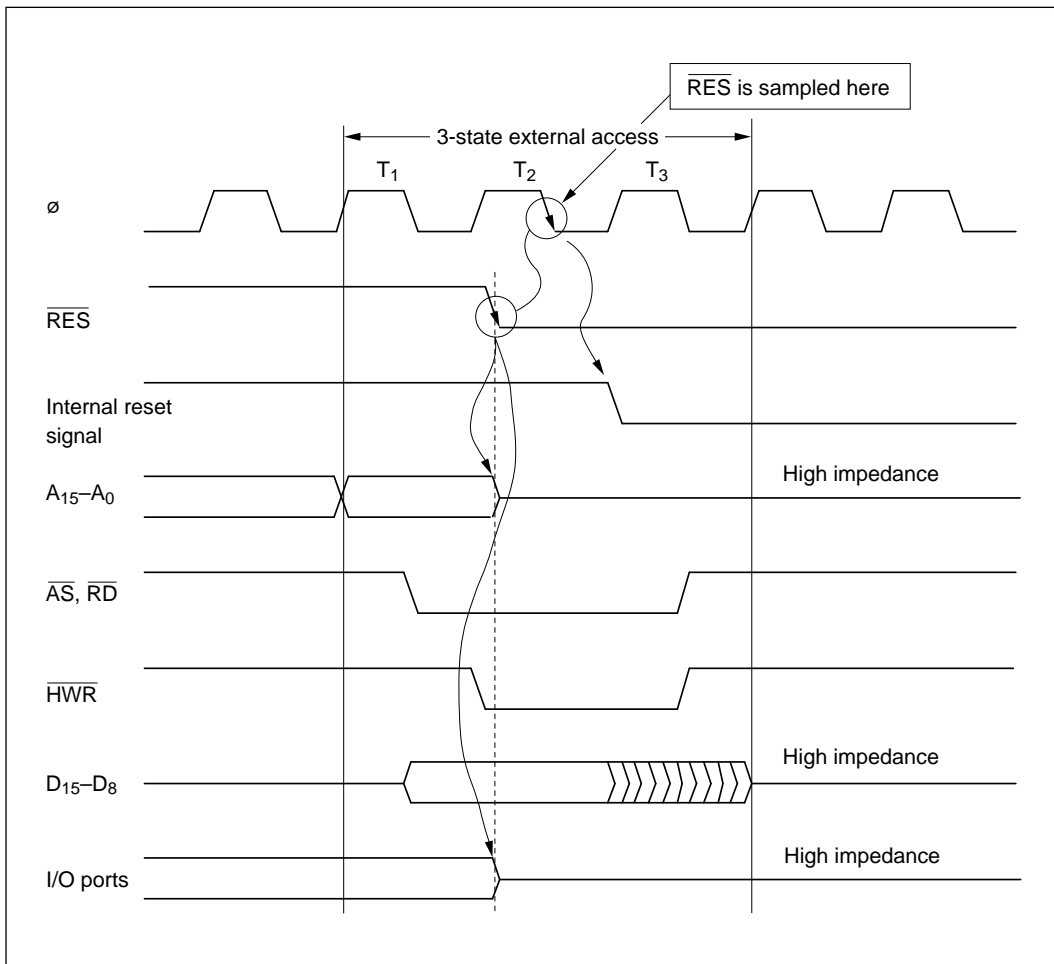

Figure G-2 Reset during Three-State Access (mode 2)
(2) Mode 2: Figure G-2 is a timing diagram for the case in which $\overline{\text{RES}}$ goes low during three-state access in mode 2. As soon as $\overline{\text{RES}}$ goes low, all ports are initialized to the input state. $\overline{\text{AS}}$, $\overline{\text{RD}}$, $\overline{\text{LWR}}$, and $\overline{\text{HWR}}$ go high, and D_{15} to D_8 go to the high-impedance state. A_{15} to A_0 are initialized as soon as $\overline{\text{RES}}$ goes low, and become input ports.